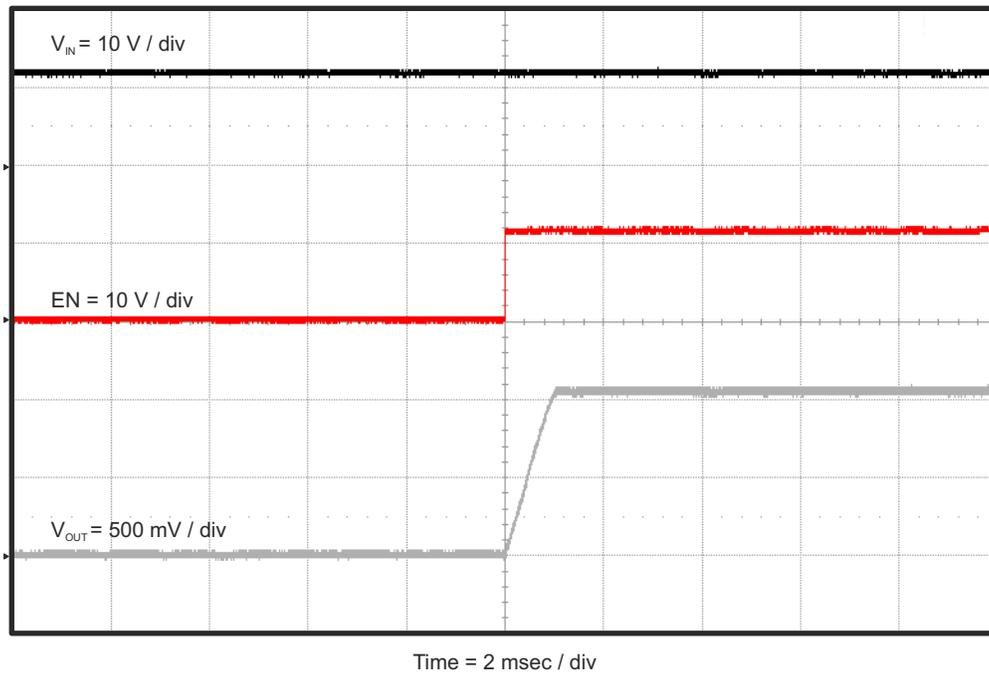

Figure 4-9. TPS562209EVM-601 Start-Up Relative to EN
The TPS562209EVM-601 start-up waveform relative to enable (EN) is shown in Figure 4-9. Load = 1 Ω resistive.